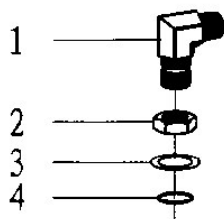

Fig 18
7.15. Bend adaptor(9/16-18UNF) (Fig18, Table17)